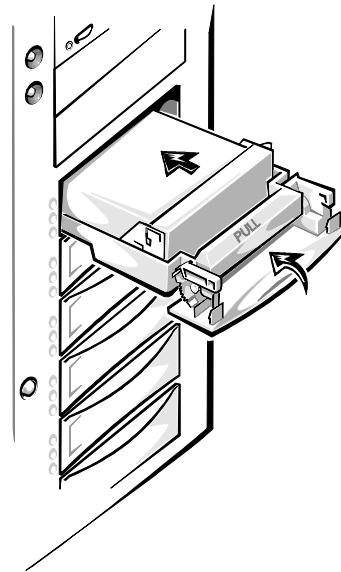

Figure 10-2. Installing a SCSI Hard-Disk Drive Carrier
SCSI hard-disk drives are supplied by Dell in special drive carriers that fit in the internal drive bays (see Figure 10-2). The printed circuit board at the back of the drive carrier acts as an interface between the SCSI hard-disk drive and the SCSI backplane board.
2. **Position the drive with its carrier side down and insert it, connector end first, into the bay (see Figure 10-2).**